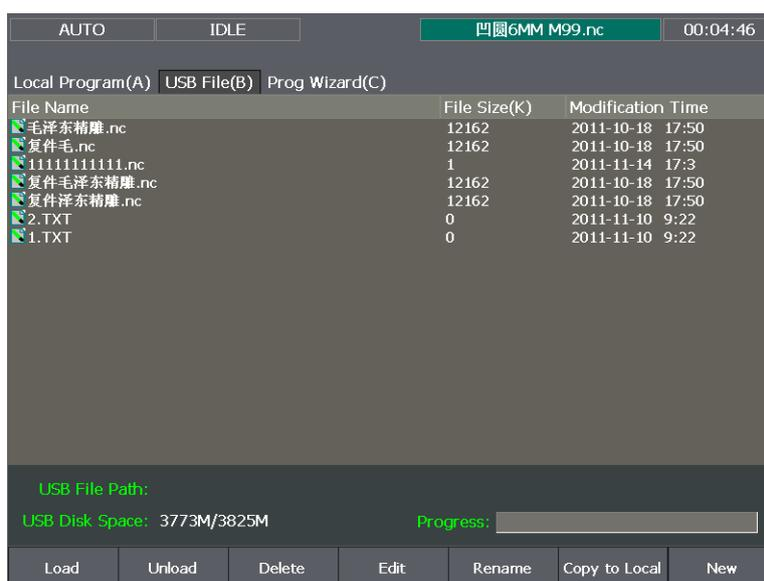

Fig. 3-51 USB file screen
Press letter key B to enter [USB File (B)] screen, as shown in Fig. 3-51, in which files in the USB flash disk can be read in. Users can also do the following operations to them, like “Load”, “unload”, “Edit”, “Delete”, “New”, “Rename”, and “Copy to local”. Folders can be opened by pressing “Enter”.